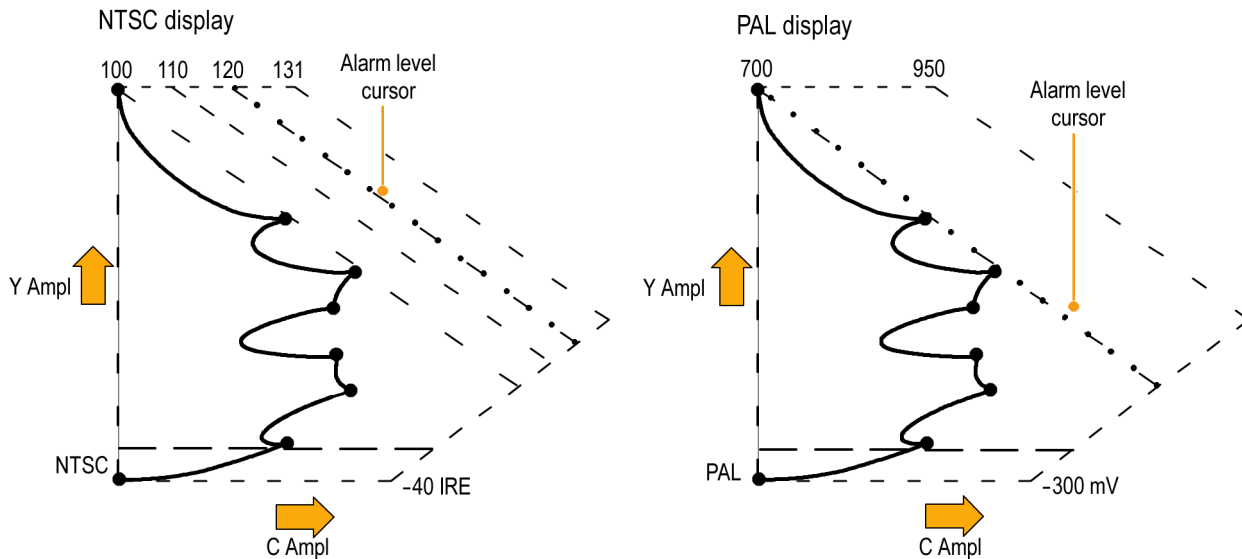

Figure 58: Arrowhead gamut display plots
The Arrowhead gamut display plots luminance (Y) against chrominance (C) to check if the composite signal adheres to standard gamut. NTSC and PAL Arrowhead displays (75% Color bars) and indicates the values of the graticule lines. The arrowhead shape of the graticule results from overlaying the standard limits for luminance and luminance-plus-peak chrominance. (See Figure 58.)